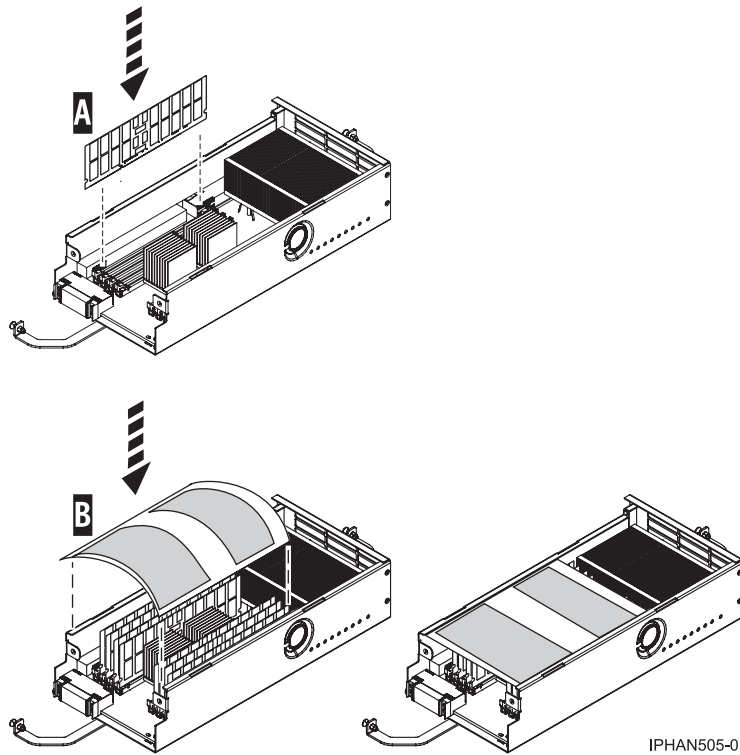

Figure 12. Plastic film cover placed over 4 GB or 8 GB memory modules
8. If you have tall 4 GB or 8 GB memory modules, use the plastic film cover to prevent the memory modules from contacting the lid. When you have finished inserting the memory modules **(A)**, place the plastic film cover **(B)** over them, as shown in Figure 12 on page 20. If you replace tall 4 GB or 8 GB memory modules with any other size memory modules, remove the plastic film cover. Failing to remove the plastic film cover might restrict airflow in the unit.